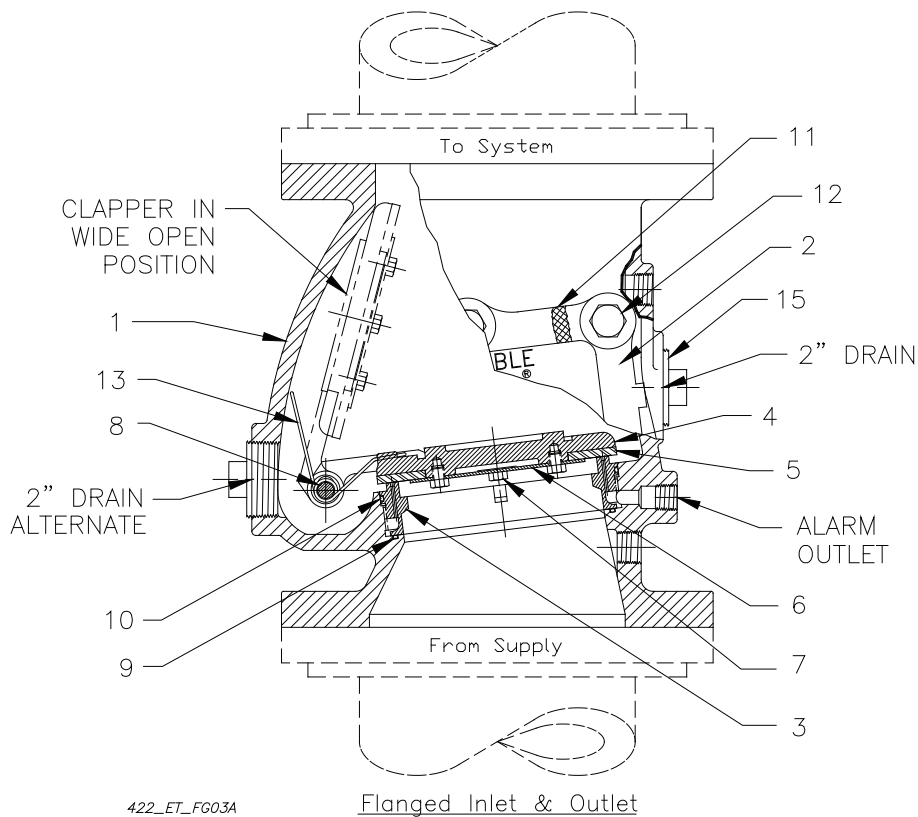

Fig. 3
The normal positions of the Model E Alarm Valve parts are shown in (Refer to Fig. 3).
Alarm Valve (Refer to Fig.3)
2. Remove “O” rings, items 9 and 10, (Refer to Fig. 3) Thoroughly clean the “O” ring grooves and sealing surfaces. Inspect for damage and/or foreign material.